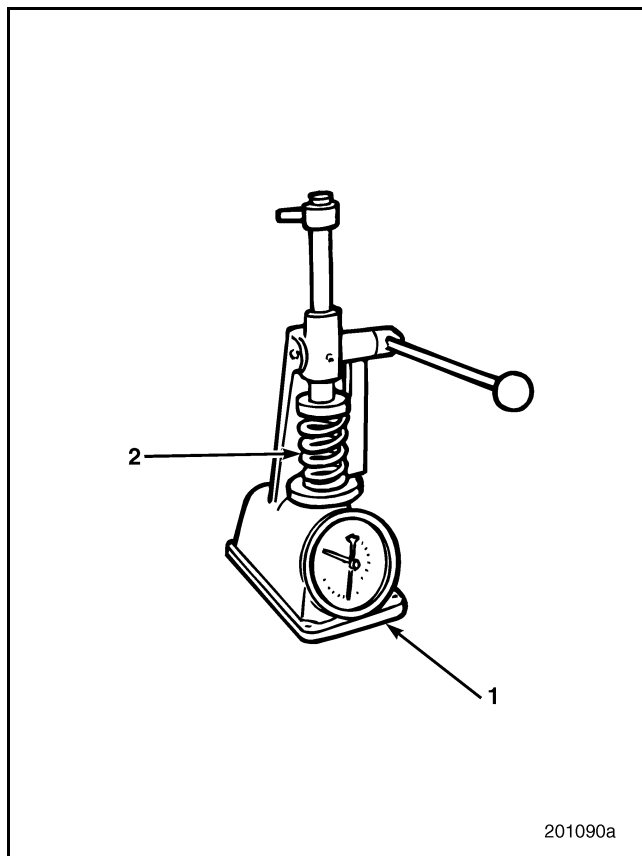

Figure 218 — Checking Valve Spring Pressure
4. Using a spring tester as shown in Figure 218, measure the effort required to compress a spring.